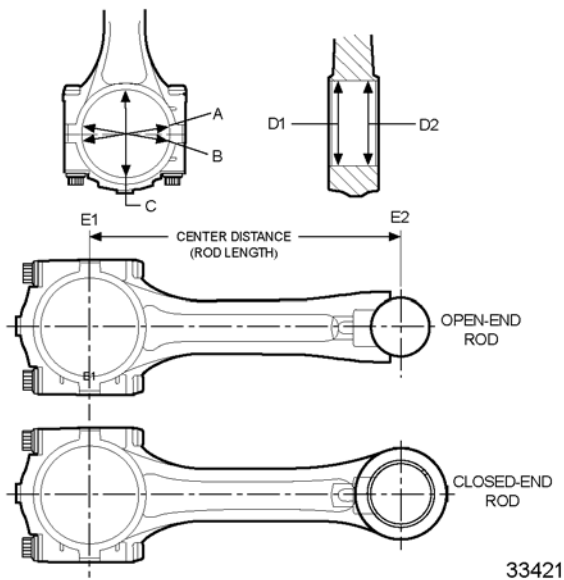

Figure 2 Dimensional Inspection of Connecting Rods
Measure the connecting rod bearing diameter at five locations. See Figure 2.
5. Determine the rod length by finding the distance between E1 and E2. See Figure 2.